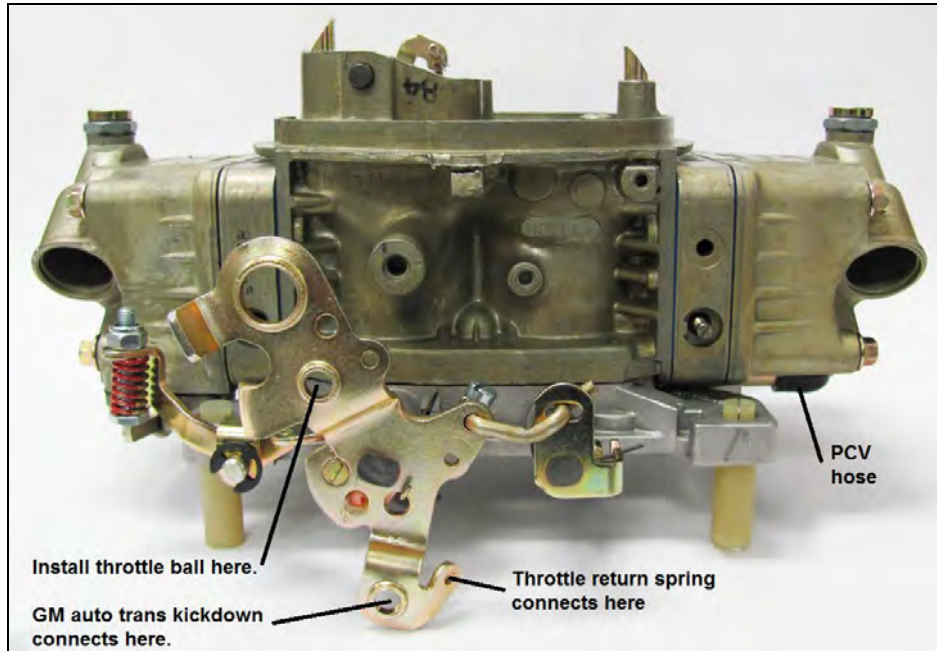
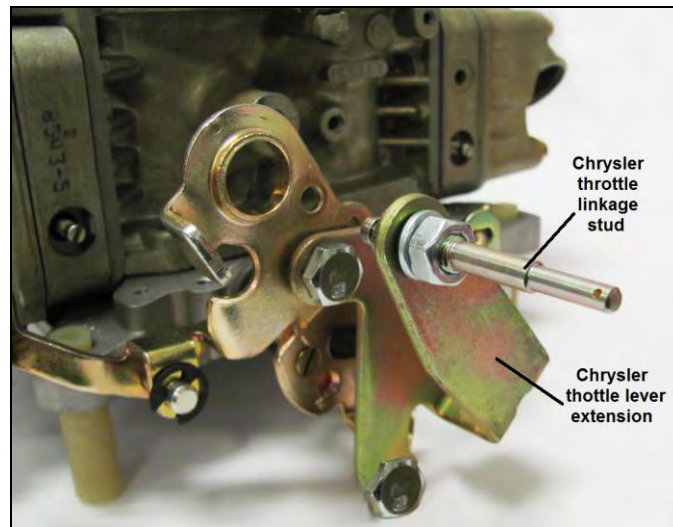

Figure 1
Figure 2
7. Install the throttle ball in the appropriate position on the throttle lever (Fig. 1). Some Chrysler applications may require a Chrysler throttle lever extension (Holley P/N 20-7) and Chrysler throttle linkage stud (20-67). These are installed in Fig. 2.
13. Reconnect the appropriate vacuum hoses noting the correct fitting from Figures 1,3, and 4.